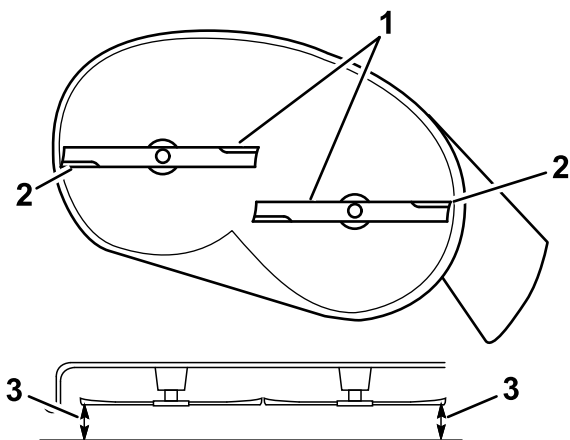

Figure 58
- Measure between the outside cutting edges and the flat surface (Figure 58).